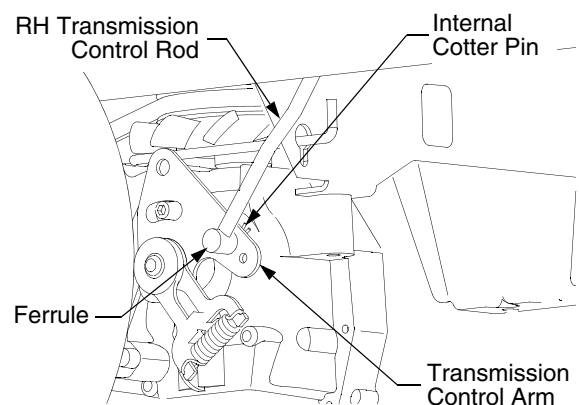

Figure 27
- If only one wheel is rotating, locate the transmission control rod beneath the frame at the front of the rear tire. If both wheels rotate, locate both control rods. See Figure 27.